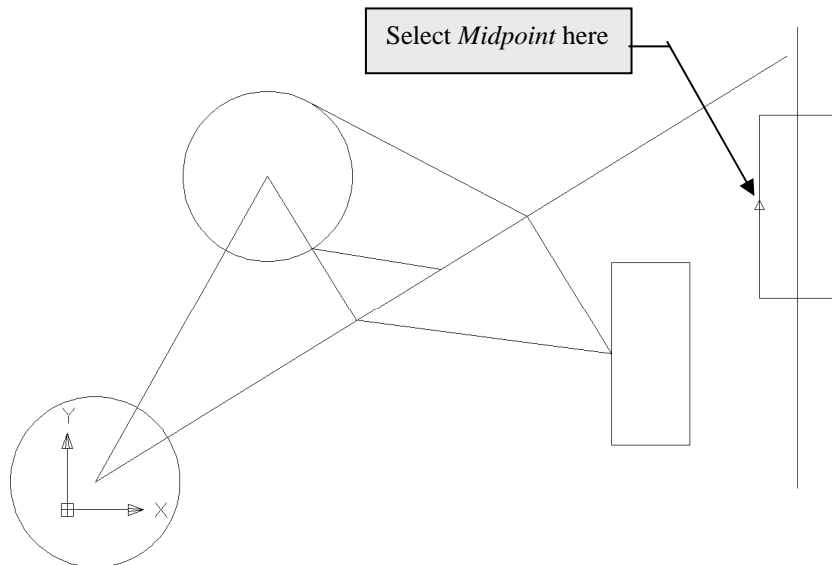

Figure 2-3.6 Rotate command. First Step - Select *Midpoint* of left vertical line.
17. Pick the *Midpoint* of the vertical line on the left side of the rectangle (Figure 2-3.6).